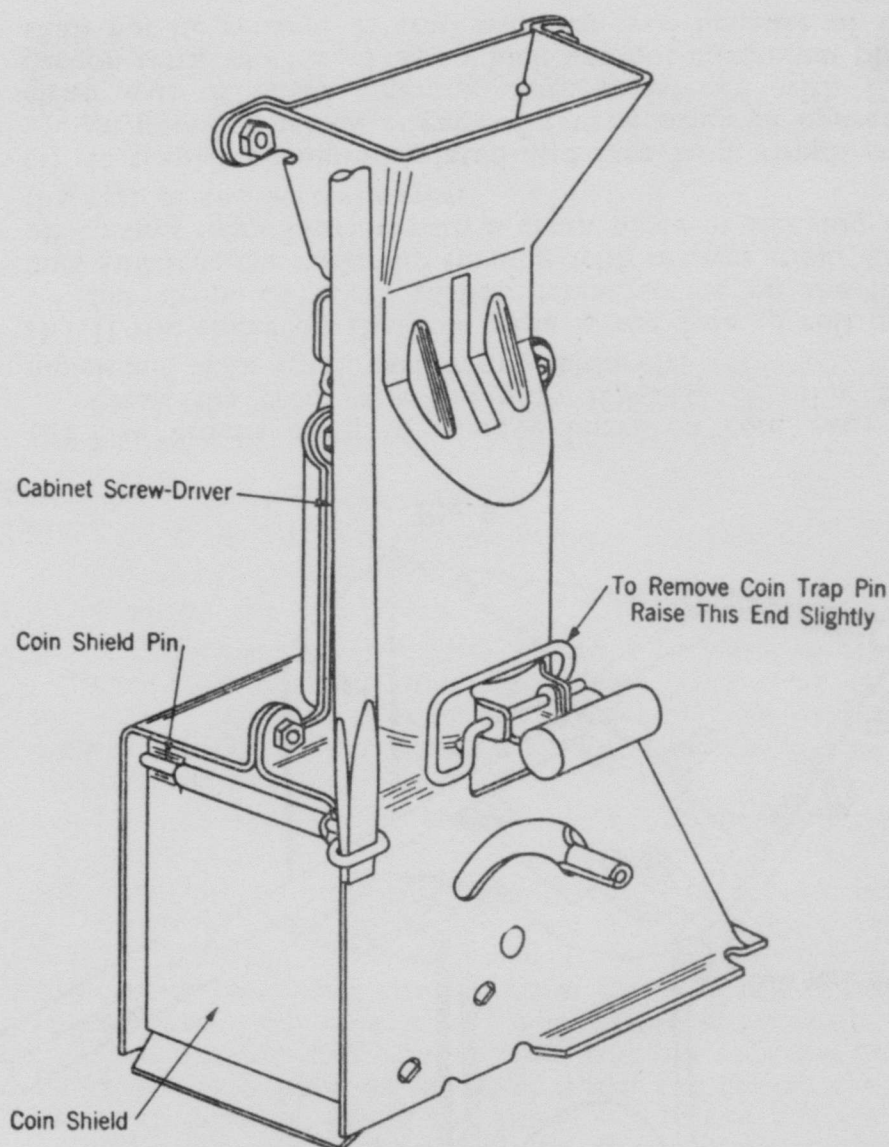

Fig. 8.
- (d) Remove coin trap pin. See Fig. 8. If equipped with pin flattened on both ends, cut off left end of pin with diagonal pliers and remove pin. Push trap in hopper and allow it to drop into coin return.
(j) Attach cleaned or new trap to string and draw into position. Insert coin trap pin P-247410 as shown in Fig. 8.
(d) Remove the coin shield by inserting a cabinet screw-driver in the loop of the coin shield pin as shown in Fig. 8. Turn the screw-driver in a clockwise direction just sufficiently to release the pin from the hole in the hopper. If equipped with coin shield pin flattened on both ends pull the pin forward and clip off the pin as close to the front of the hopper as possible. Push the pin to the rear as far as possible, swing the shield out to the left and clip off the pin between the shield and the rear of the hopper which will permit the shield to be removed. Clip off the pin as short as possible, bend the remaining short length and work it out of the hole so that it falls down the outside of the hopper.
(g) Assemble the pin P-247411 on the coin shield so that with the straight end of the pin in the hole at the rear of the hopper the bent-over section of the shield is toward the inside of the hopper, as shown in Fig. 8. Snap the hooked end of the pin in place by pressing on the shield directly over the middle of the pin.